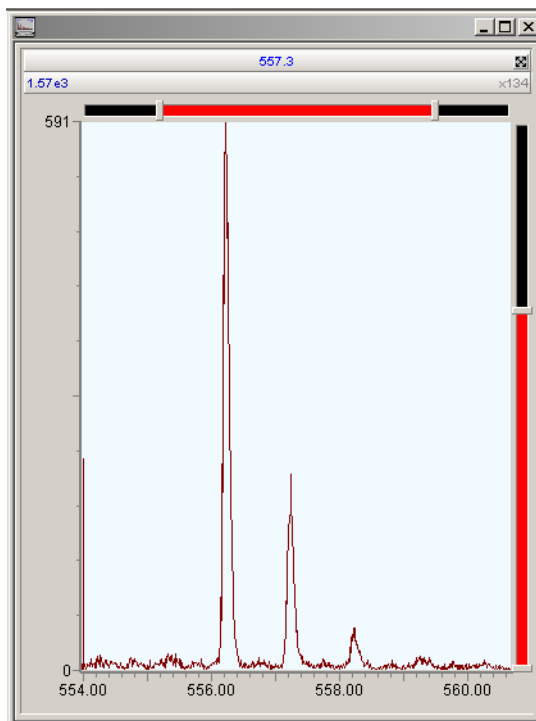

Figure 2-6 Peak Display
12. Adjust the Capillary and Sample Cone voltages up or down to vary the peak height and shape. With a little patience, the peak display should resemble that shown in Figure 2-6.